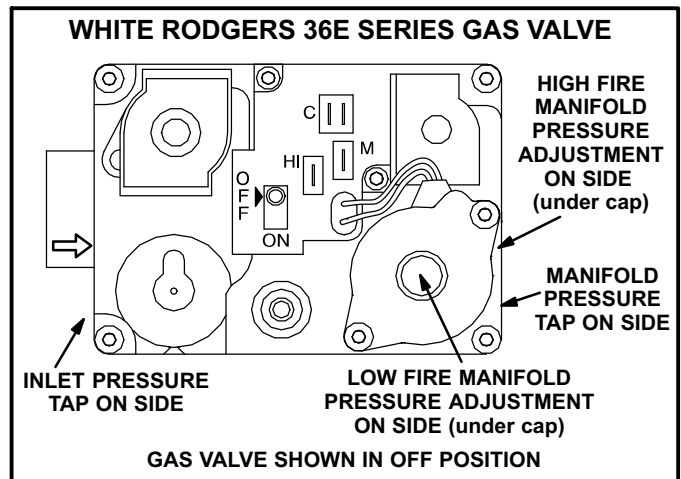

FIGURE 26
Gas Valve Operation (Figures 26 and 27)
- 6 - *White Rodgers 36E Gas Valve* - Move gas valve control switch to **OFF**. See figure 26.
- 8 - *White Rodgers 36E Gas Valve* - Move the gas valve control switch to **ON**. See figure 26.
- After the line pressure has been checked and adjusted, check the low fire and high fire manifold pressures. See figures 26 and 27 for the location of the manifold pressure adjustment screws. Low and high fire manifold pressures are given in table 13. A natural gas to LP/propane gas changeover kit is required to convert the unit.